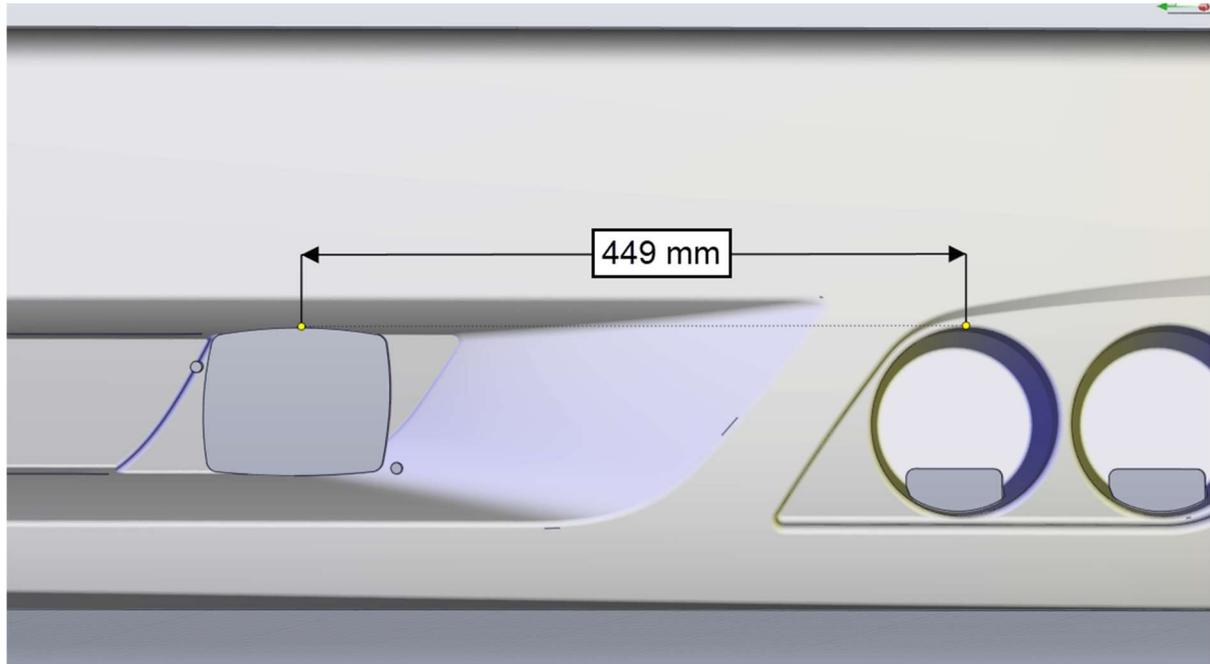

FIGURE 6
7. Using the template (Figure 7), cut the bumper skin as shown on Figure 6.